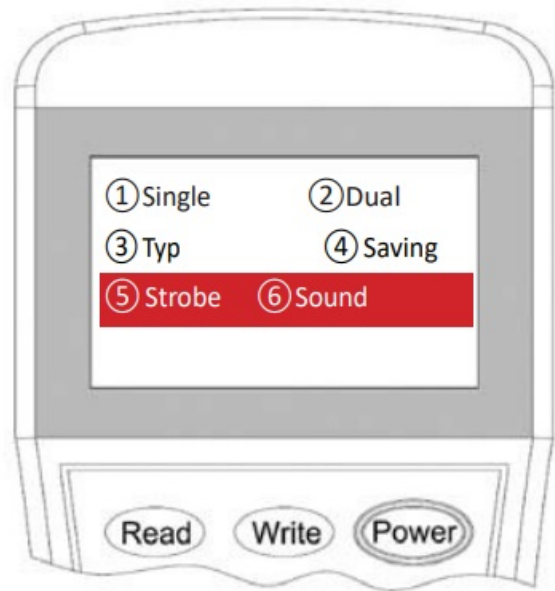

Figure 13
3. Input the “5” for Strobe type or “6” for Sounder type, then press “Write” to change the setting into the desire mode (Figure 13).